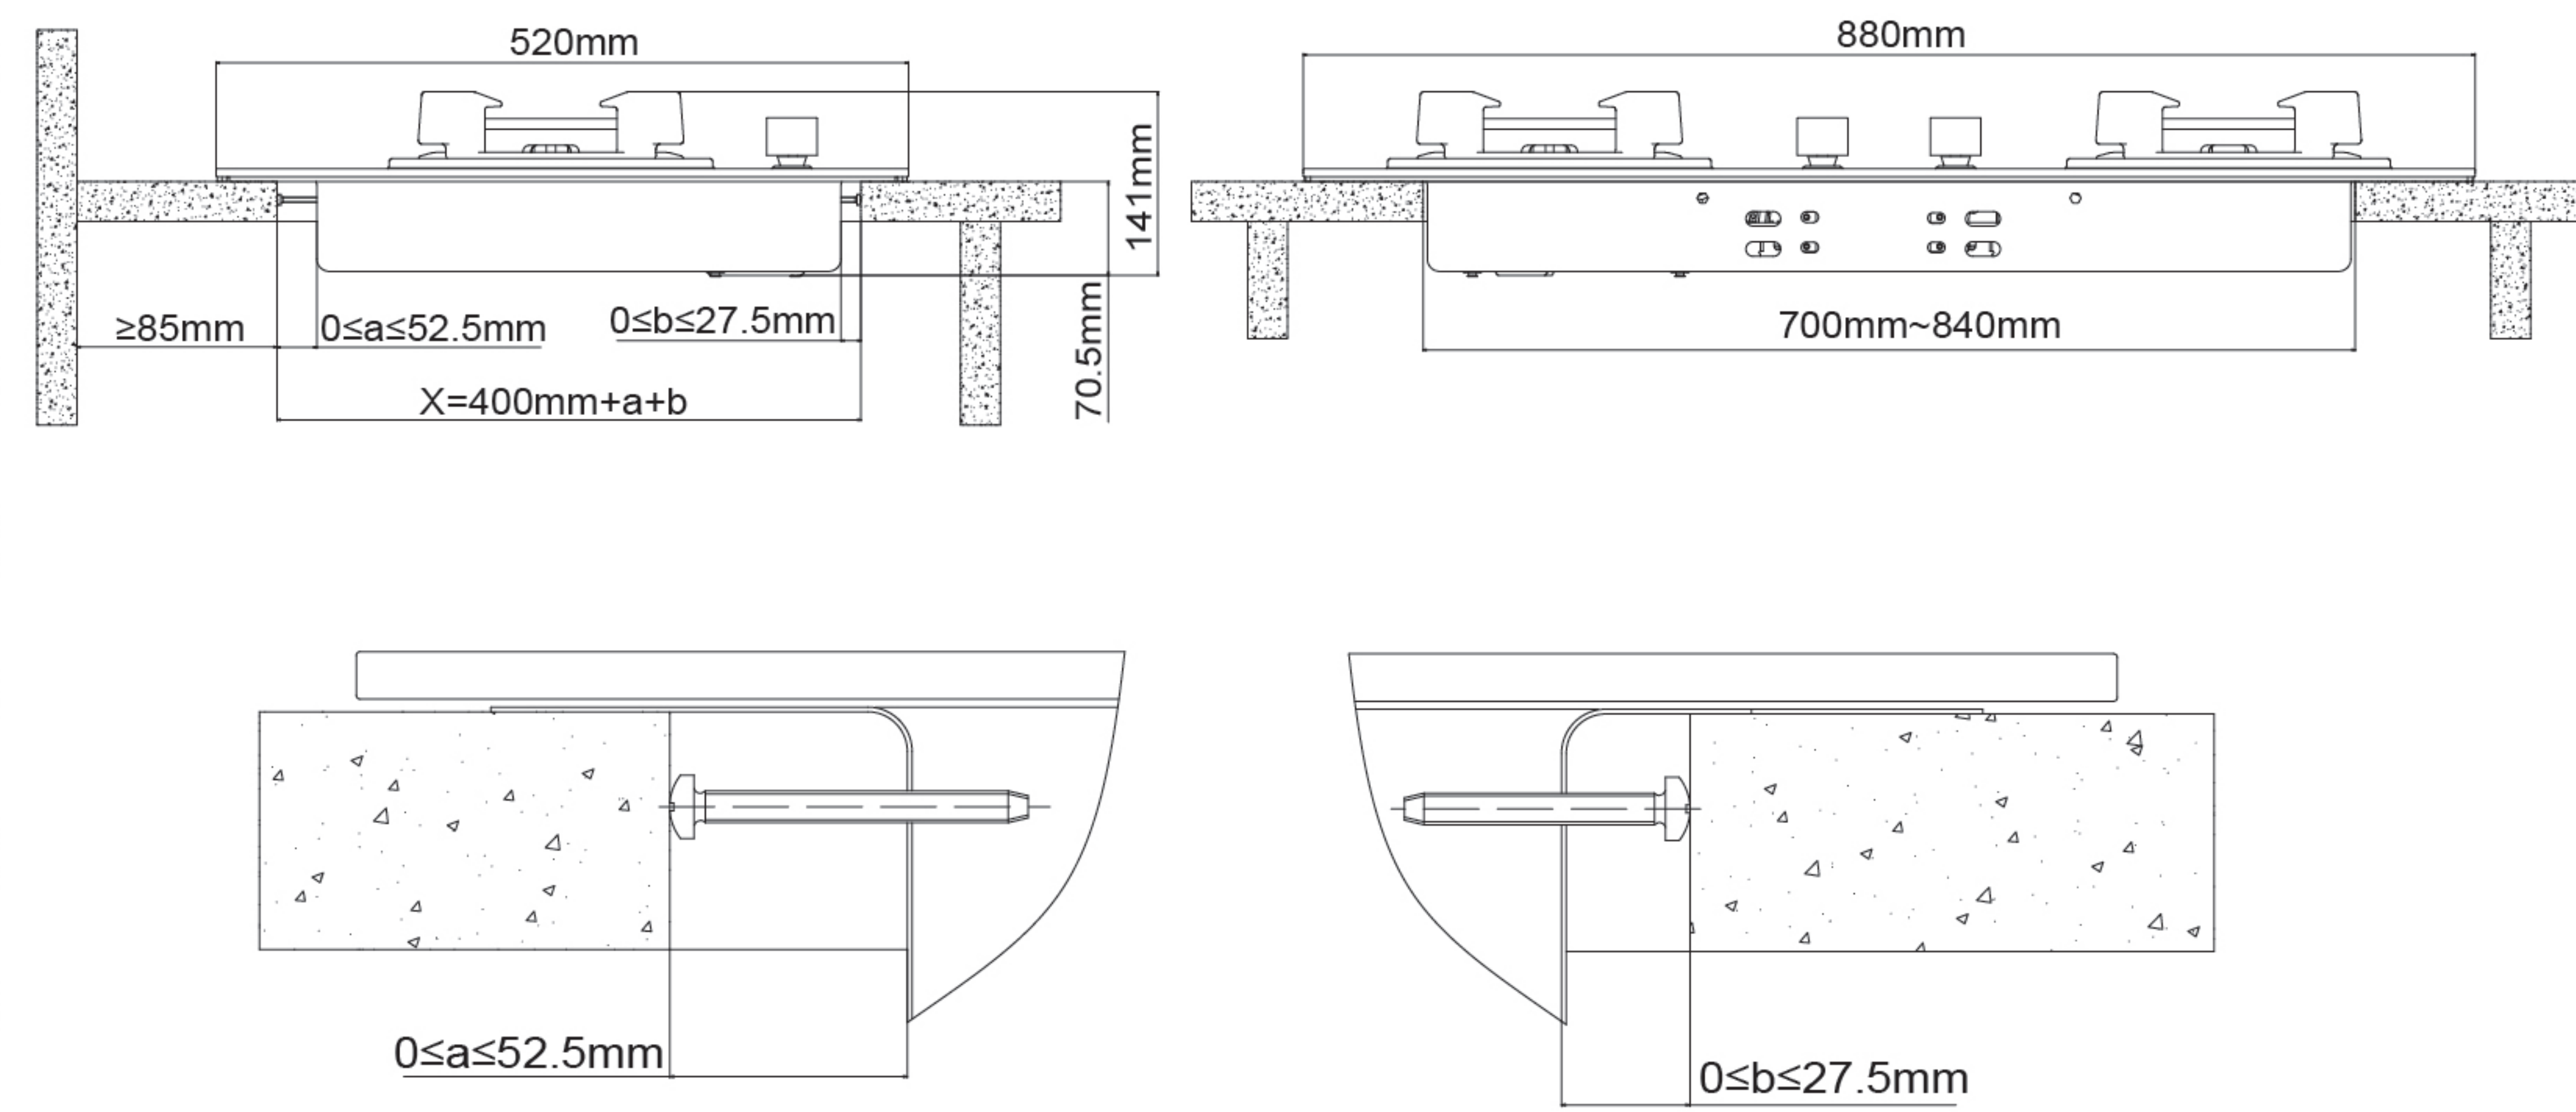

Fig.7
- 1.The stove should be installed into durable and horizontal kitchen countertop. For the hole size on the countertop, please refer to the installation diagram (Fig. 7, 8) and specific specification. Make sure the distance from the inflammable matters must be greater than 150mm, and from noncombustible matters greater than 50mm .